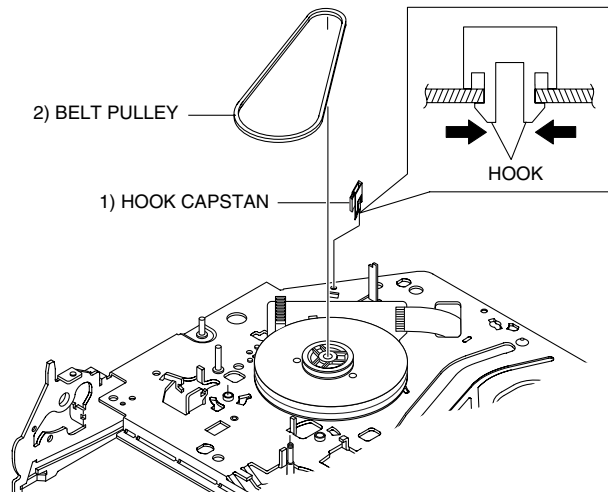

Fig. 4-4-28 Hook Capstan, Belt Pulley Removal
- 1) Remove the Hook Capstan after releasing the Hook in the direction of arrow, as shown in detailed drawing. (See Fig. 4-4-28)